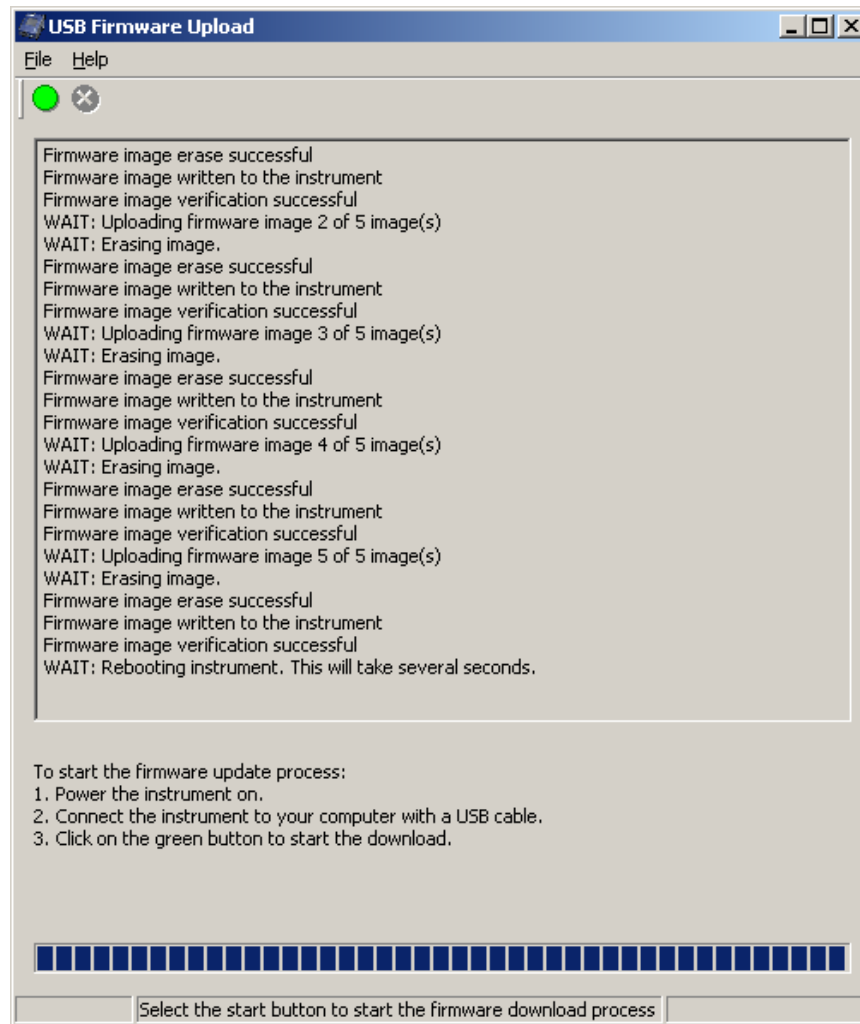

Figure 19
12. When the firmware upload process is complete, the success message is displayed (Figure 19).